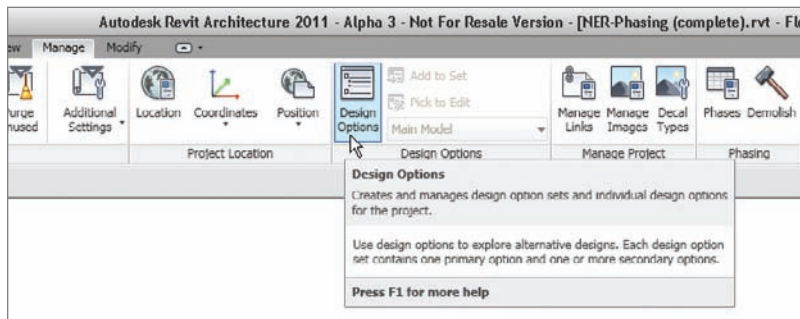

FIGURE 21.23 Clicking the Design Options button
1. On the Manage tab, click the Design Options button, as shown in Figure 21.23.